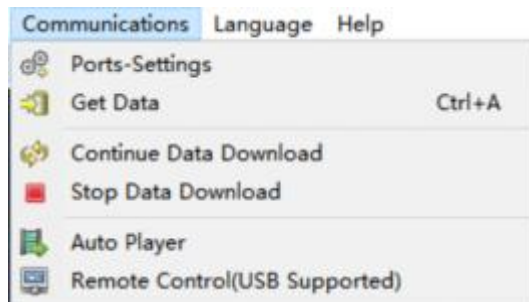

Fig 3-4-1
(4) Communications menu (Fig 3-4-1)